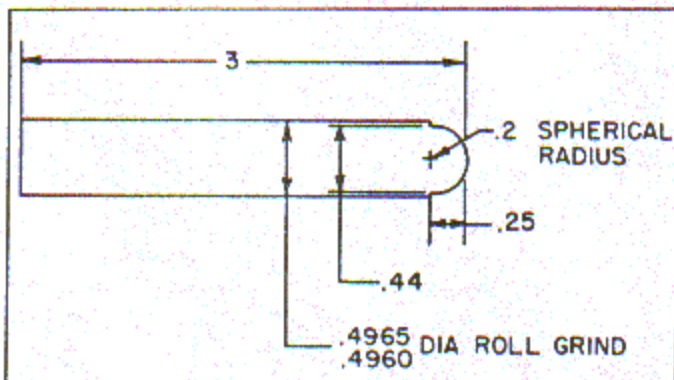

Figure 8-3. Low Pressure Relief Valve Blocking Pin
- c. Remove oil pressure relief valve cap, gaskets, lock nut, screw and bushing assembly, inner and outer springs and piston from low pressure relief valve (14, figure 1-2). Install blocking pin (fabricated locally to the dimensions and shape shown in figure 8-3) to block off relief passage; then install outer spring and screw and bushing assembly. Turn screw and bushing assembly into mount bracket until it seats on blocking pin. Install gasket and lock nut and tighten lock nut. (If relief valve cap is installed, be sure to tighten it less than lock nut to prevent loosening the nut when cap is removed.)